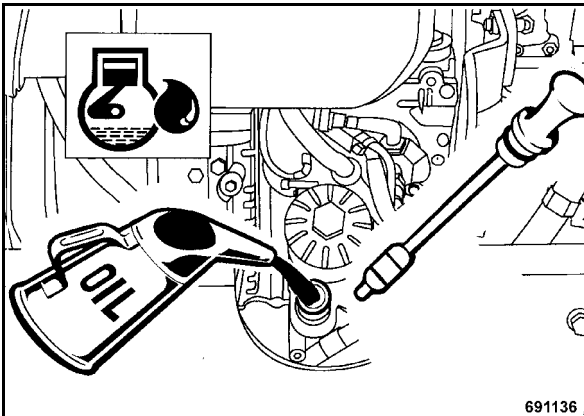

Fig. 62
- Fill in fresh engine oil through the filler opening (Fig. 62).